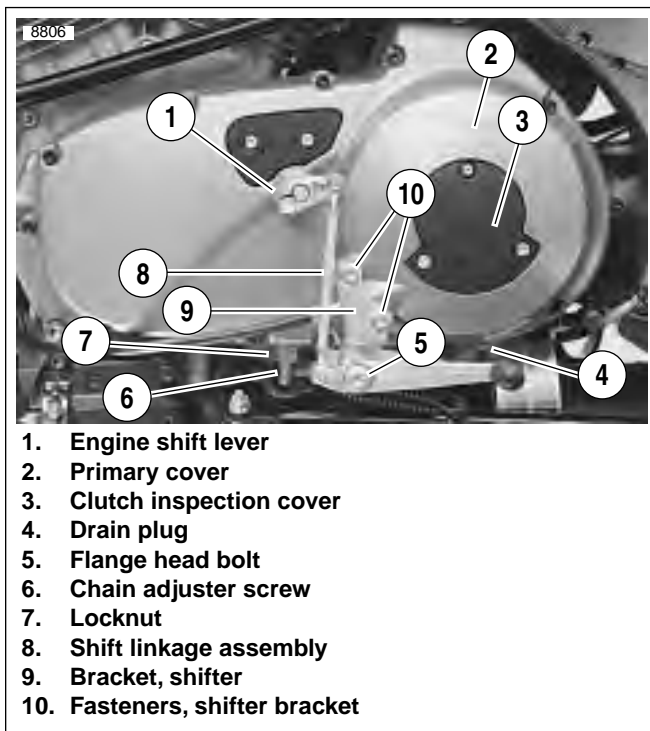

Figure 6-8. Removing Primary Cover
12. See Figure 6-8. Install shifter bracket (9) on primary cover (2) by applying loctite 272 (red) to fasteners and tightening to **22-24 ft-lbs** (30-32.5Nm).
13. Install rubber washer and engine shift lever assembly (1).
14. After applying LOCTITE 272 (red), install flange bolt (5) and shift pedal to shifter bracket, and tighten to **22-24 ft-lbs** (30-32.5 Nm).
16. If the shift linkage assembly (8) was removed for any reason, apply Loctite 272 (red) to fasteners and tighten to **36-60 in-lbs** (4-6.8 Nm). Adjust to rider comfort.